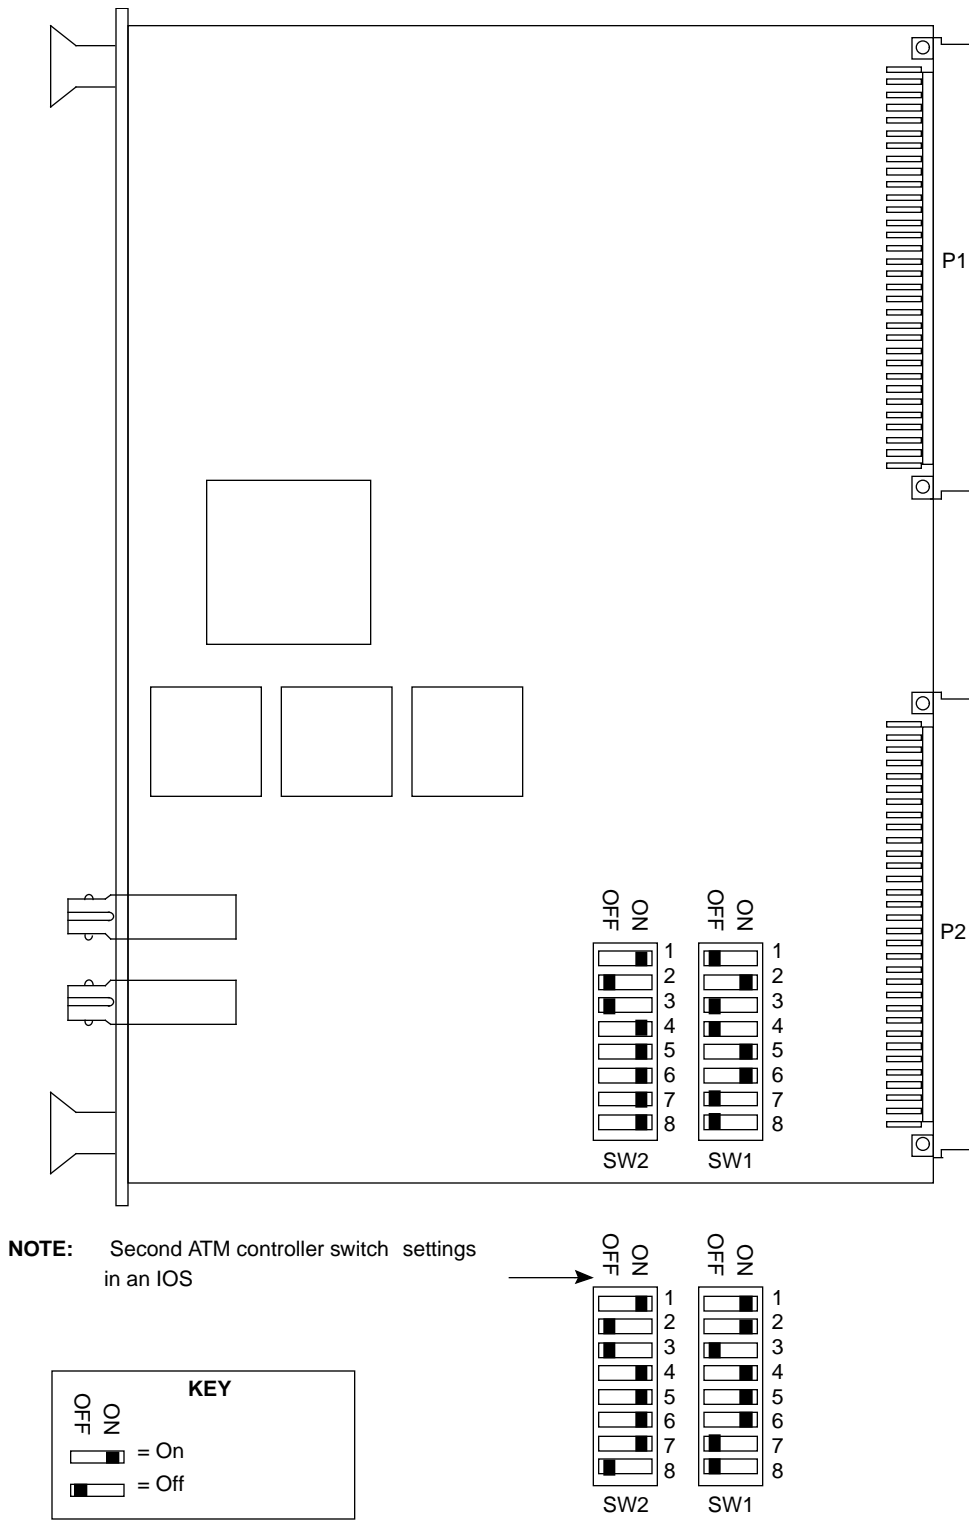

Figure 1. AT-1 Jumper Settings
4. Change any jumpers or switches necessary on the new AT-1 controller board. Refer to Figure 1.